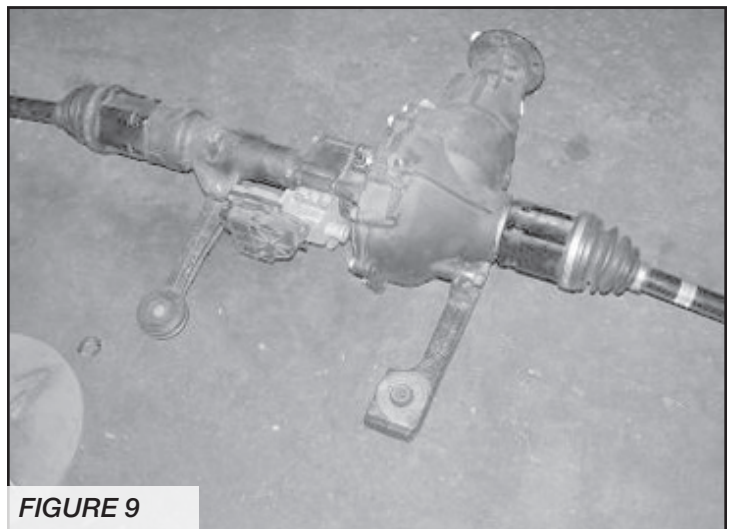

FIGURE 9
13. Support the front differential with a transmission or floor jack. Disconnect all electrical, vacuum lines, and breather lines from the differential. Remove the rear differential nut and save as you will reuse it during assembly. Remove the two front differential bracket bolts from the frame. Discard the bolts, as you will not reuse them. **DO NOT SEPARATE THE C.V. AXLES FROM THE DIFFERENTIAL.** Remove the differential from the truck and set aside. **USE CARE WHEN REMOVING DIFFERENTIAL AS TO NOT DAMAGE THE C.V. AXLES AND 4WD VACUUM ACTUATOR ASSEMBLY.** **SEE FIGURE 9**